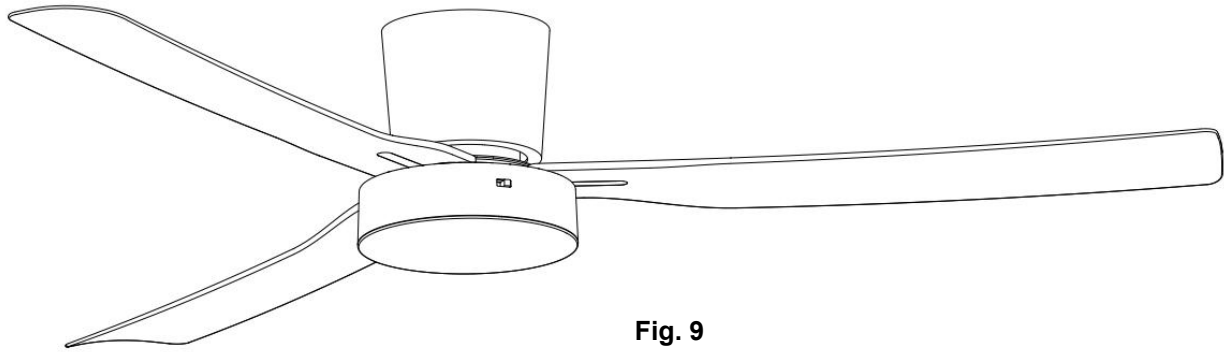

Fig. 9
2. Repeat this process for the remaining blades. (Fig. 9)